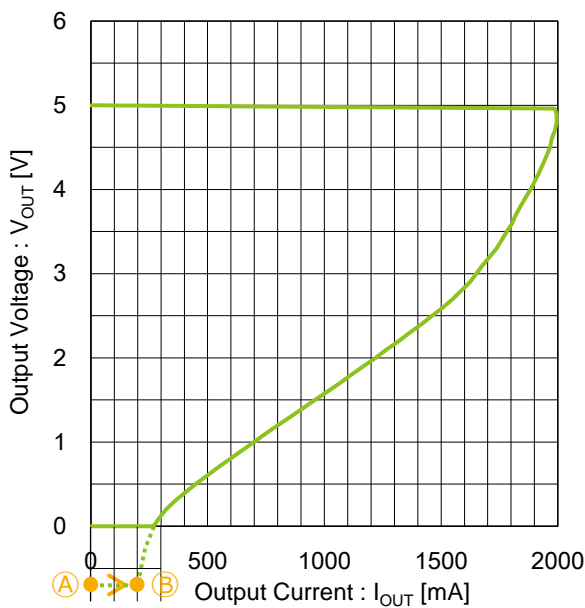

Figure 6. Transition of the operating point during startup when the load is a constant current
For example, with a constant current load of 500 mA, the operating point before the IC starts up is located at point (A) in Figure 6. Although the supply of the output current starts when the IC starts up, the supply current at the output voltage of $-0.7 V$ is further decreased from the current at 0 V, decreasing to 200 mA in this example. The output voltage cannot rise because the supply current is only 200 mA against the load current of 500 mA. As a result, the output voltage cannot rise and a steady operating point is formed at (B), leading to a startup problem.
Next, we consider the case of connecting a constant current load after the IC has started. The regulator operates without problem if a constant current load is connected while the specified voltage is obtained at the IC output. This is because the current has a sufficient supply capacity at the specified voltage. If the output is short circuited in this situation, the operating point moves to point (A) in Figure 6 and a startup problem occurs as described above.